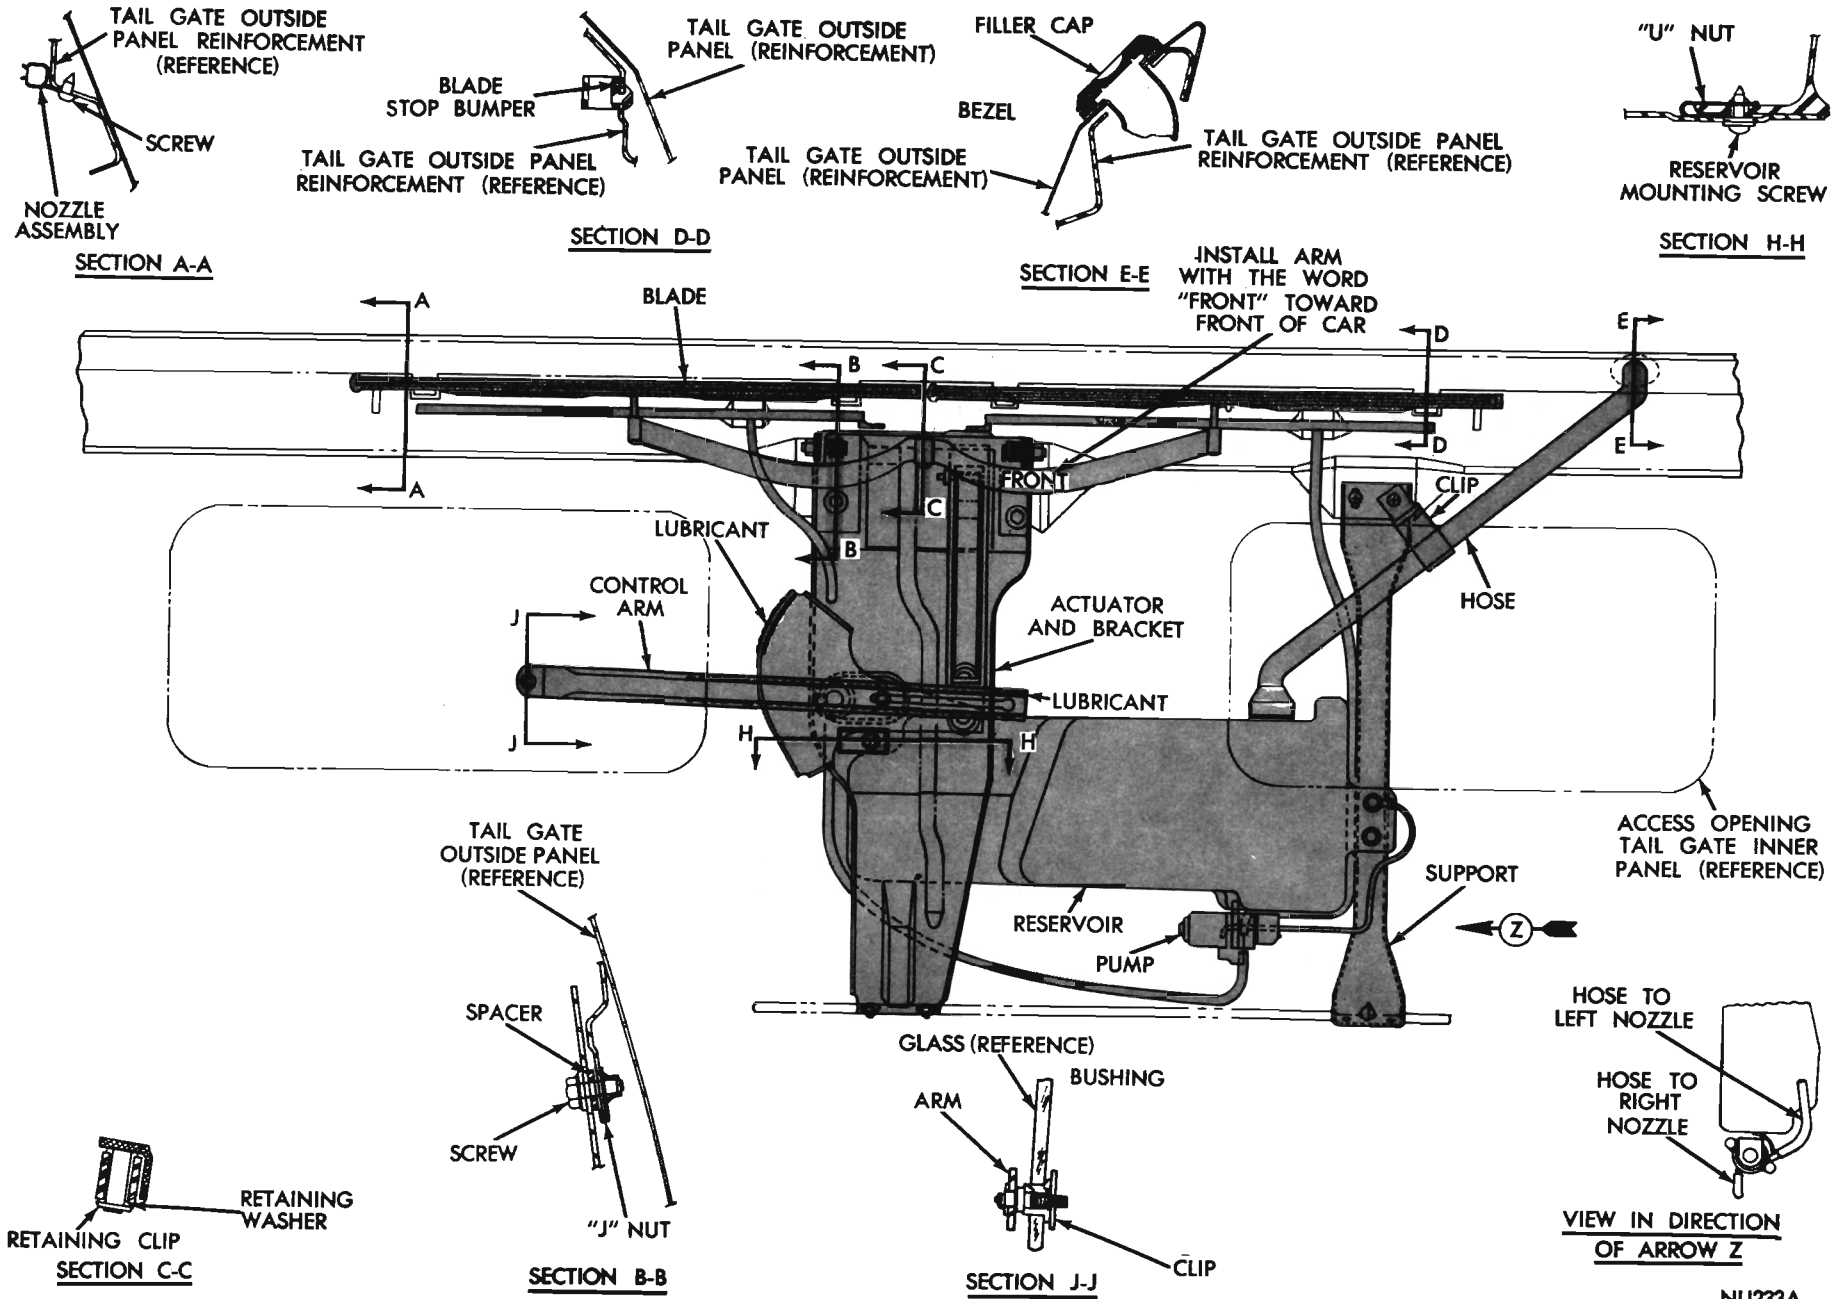

FIG. 2 - Tailgate Window Washer Installed.
**Wiper Blade Replacement (18 Inch Blade) —(Fig.2)**
- (1) Lower the tail gate glass to full bottom position.
- (2) Open tail gate to horizontal position.
- (3) Remove inner trim panel of tail gate.
- (4) Raise glass approximately half way, after tripping limit switch.
- (5) Position the yoke for "off glass" condition.
- (6) Remove wiper control arm assembly from glass.
- (7) Disengage glass from window regulator arms and remove glass.
- (8) Position the yoke for "on glass" condition.
- (9) Remove and replace blades. (Locking Tab Down)
- (10) Do Not get lubricant on new wiper blades.